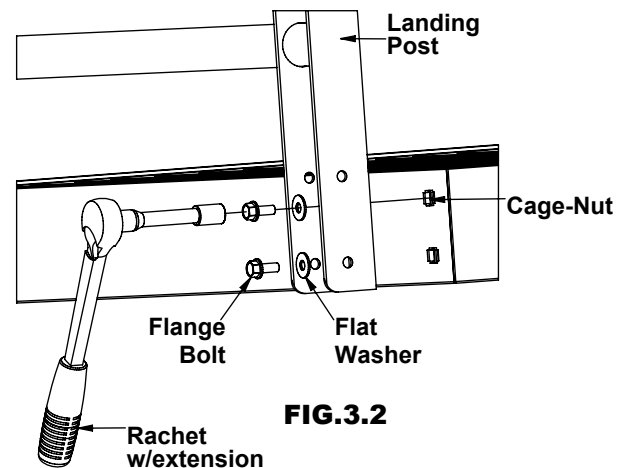

FIG.3.2
3.1 HANDRAIL TO PLATFORM ATTACHMENT: Align the holes at the bottom of handrail post with the pre-installed cage-nuts in the landing base. Place a 5/16x3/4 flange bolt through flat washer and slotted holes in landing post thread flange bolt into cage-nut, do not fully tighten bolts until each bolt has been started (Fig.3.2). Repeat this process at each post location. NOTE: Setting platform base on saw horses will make attaching handrail quicker and easier.